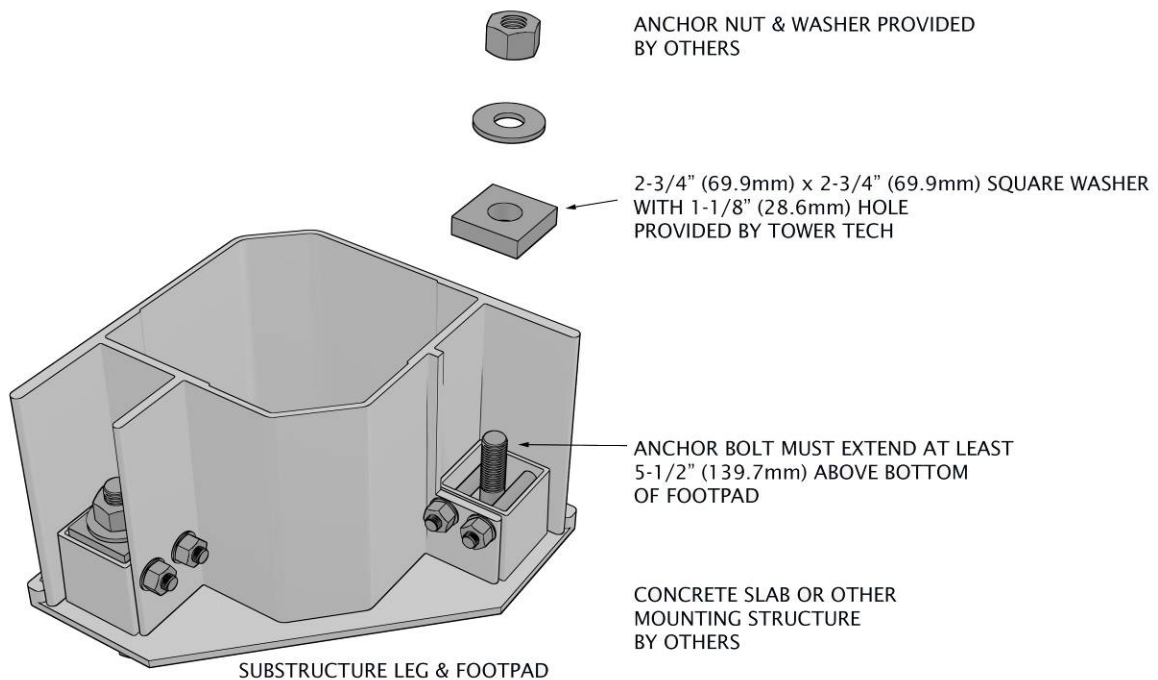

Figure 31 – Installation Detail for Sub-Structure Footpad
1. Set the tower into position with each footpad on the anchor bolt or location anchor bolt will be installed. The size and length of the anchor bolt to be provided by a structural engineer. Refer to cooling tower submittal drawings for leg geometric properties. Tower Tech can provide seismic and wind loading calculations upon request for each tower model. The maximum diameter of the anchor bolt is 1" (25.4mm) for the square washer, provided by Tower Tech, to fit onto the anchor bolt. Tower Tech requires the anchor bolt to extend a minimum of 5 ½" (139.7mm) above the bottom of the footpad as shown in Figure 31